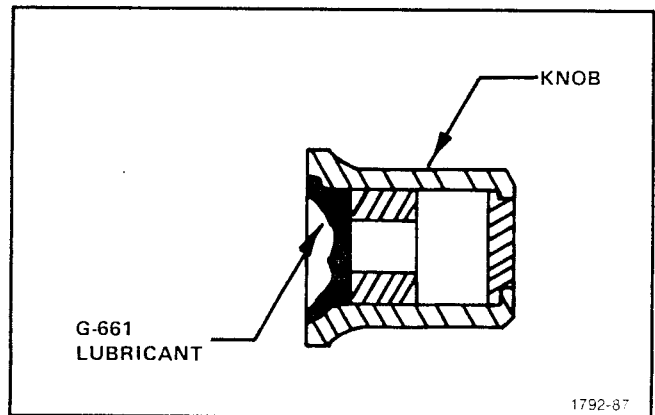

Fig. 5-32. ZERO REFERENCE Knob
Knob, ZERO REF, MPL 2-4; Pushbutton, MPL 2-3. See Figures 5-32, 5-33.
- a. Apply G-661 lubricant to ZERO REF SET knob per Figure 5-32.